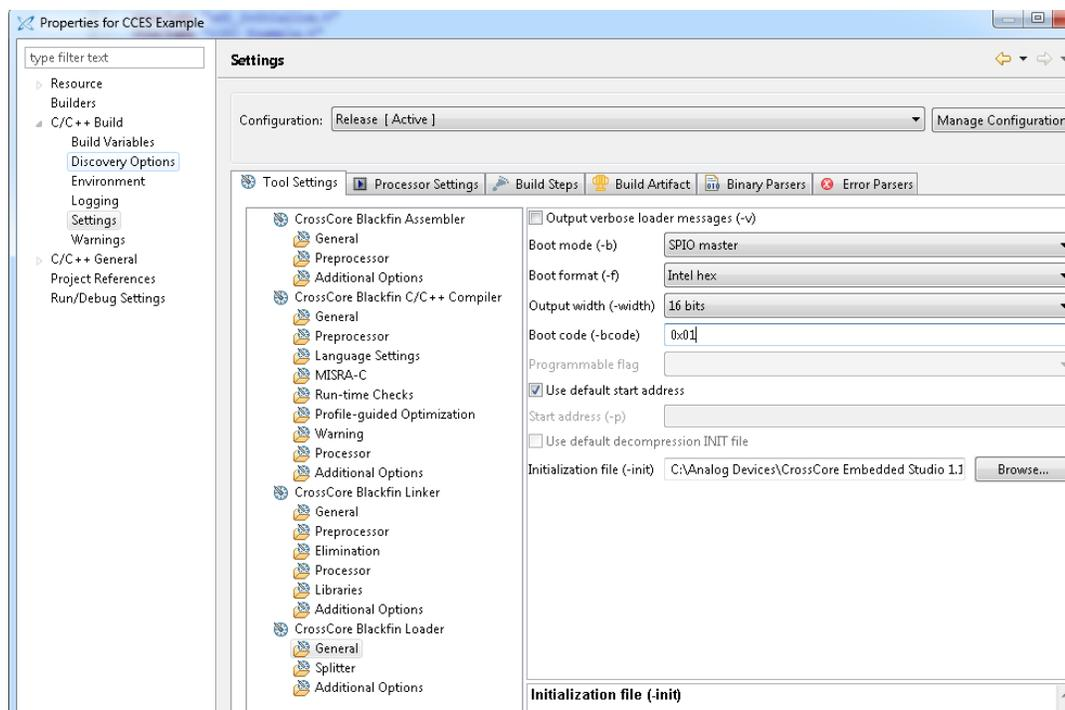

Figure 28. Loader File Settings in Project Properties
5. The window should now resemble Figure 28. Click **OK**.